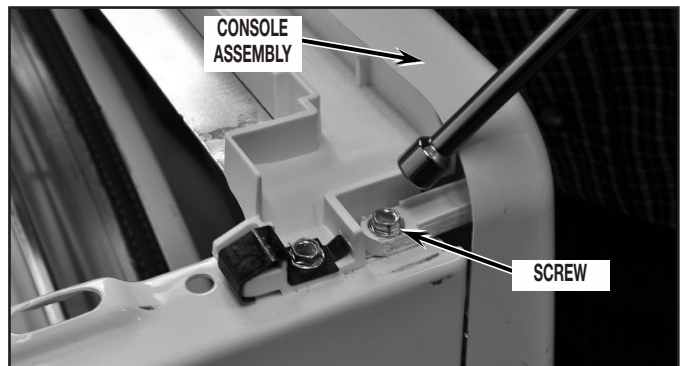

FIGURE 3
3. Remove console by first removing two (2) screws (one from each side of console assembly) at location as shown in Figure 3.